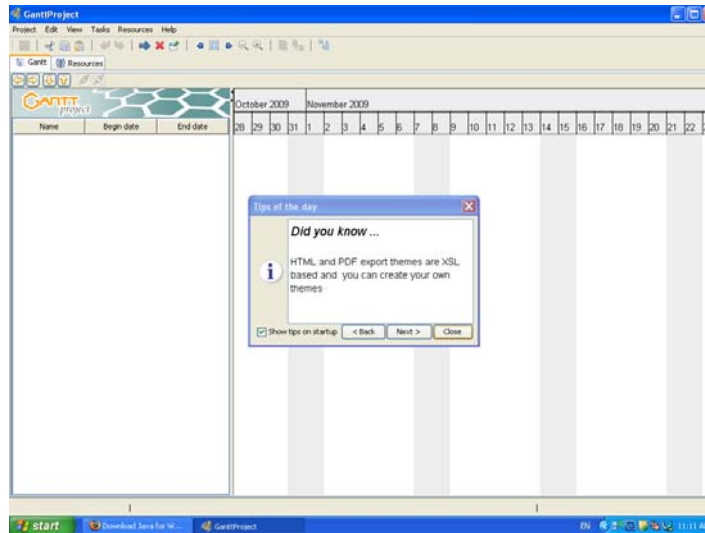

Figure 3.6: GanttProject application window.
1. Double-click the GanttProject icon to display the GanttProject application window as illustrated in figure 3.6.